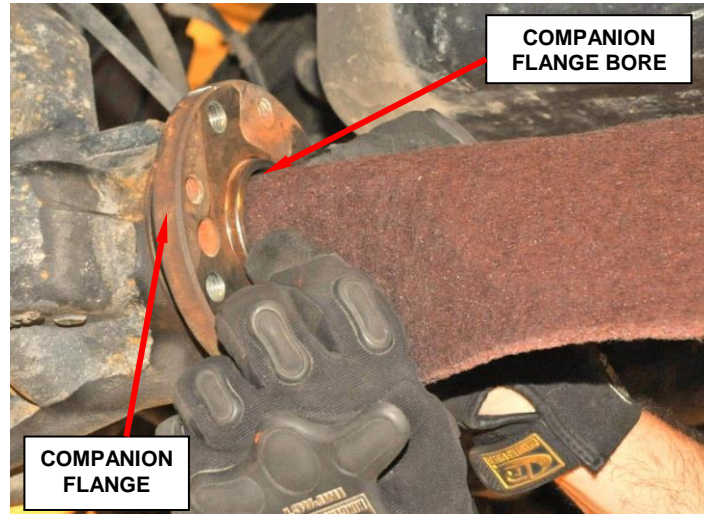

Figure 48 – Clean Companion Flange Bore
1. Thoroughly clean the companion flange bore around the pinion nut (Figure 48).